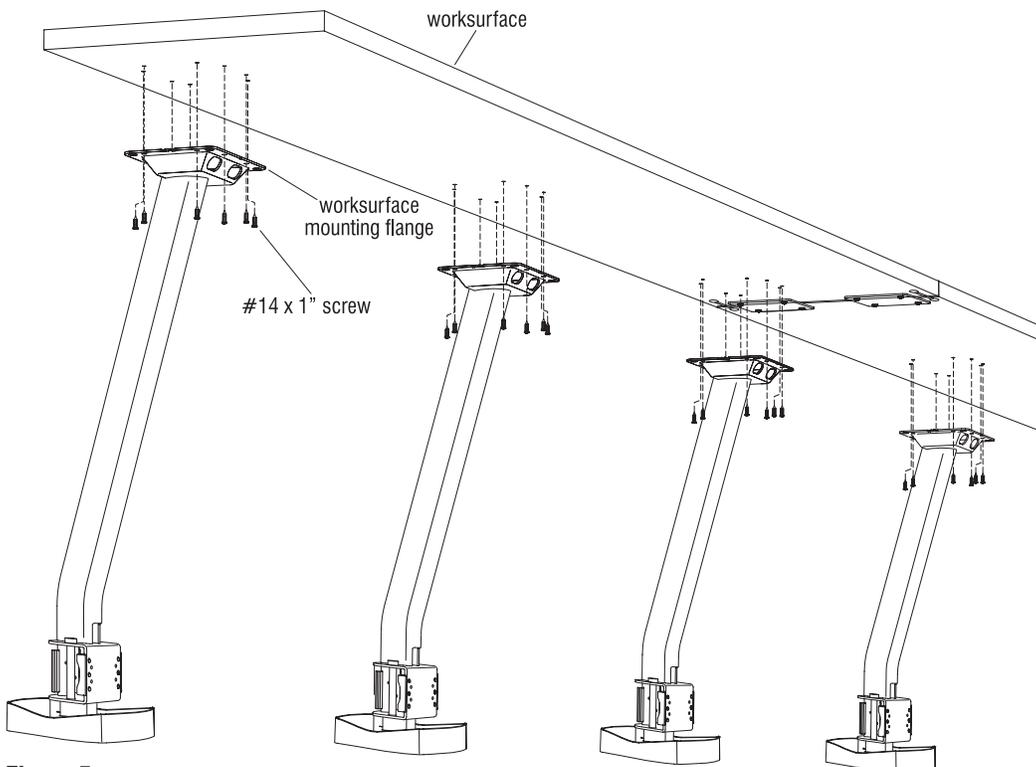

Figure 5
- With worksurfaces joined together correctly in place on worksurface mounting flanges (per the space-planning layout), check to be sure worksurfaces are level. Use shims between worksurfaces and mounting flange to assure that the joint stays flush and worksurfaces are level. Pre-drill holes with  $\frac{3}{16}$ " drill bit to a maximum depth of  $\frac{3}{4}$ ", and secure worksurfaces to mounting flanges with eight #14 x 1" screws torqued to 100 in/lb per flange (Figure 5).